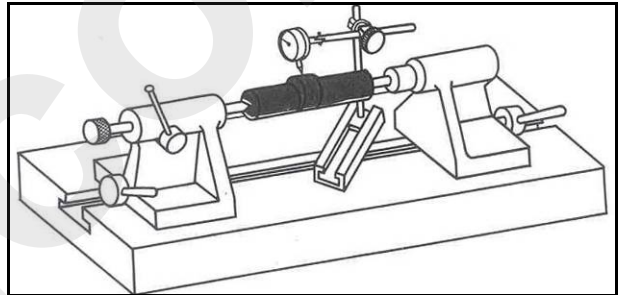

Figure 17 – Check the eccentricity of the work piece.
3. If necessary, check the eccentricity of the work piece using a comparator and rotating the piece slowly (by hand) after it has been placed between the points (see Figure 17).